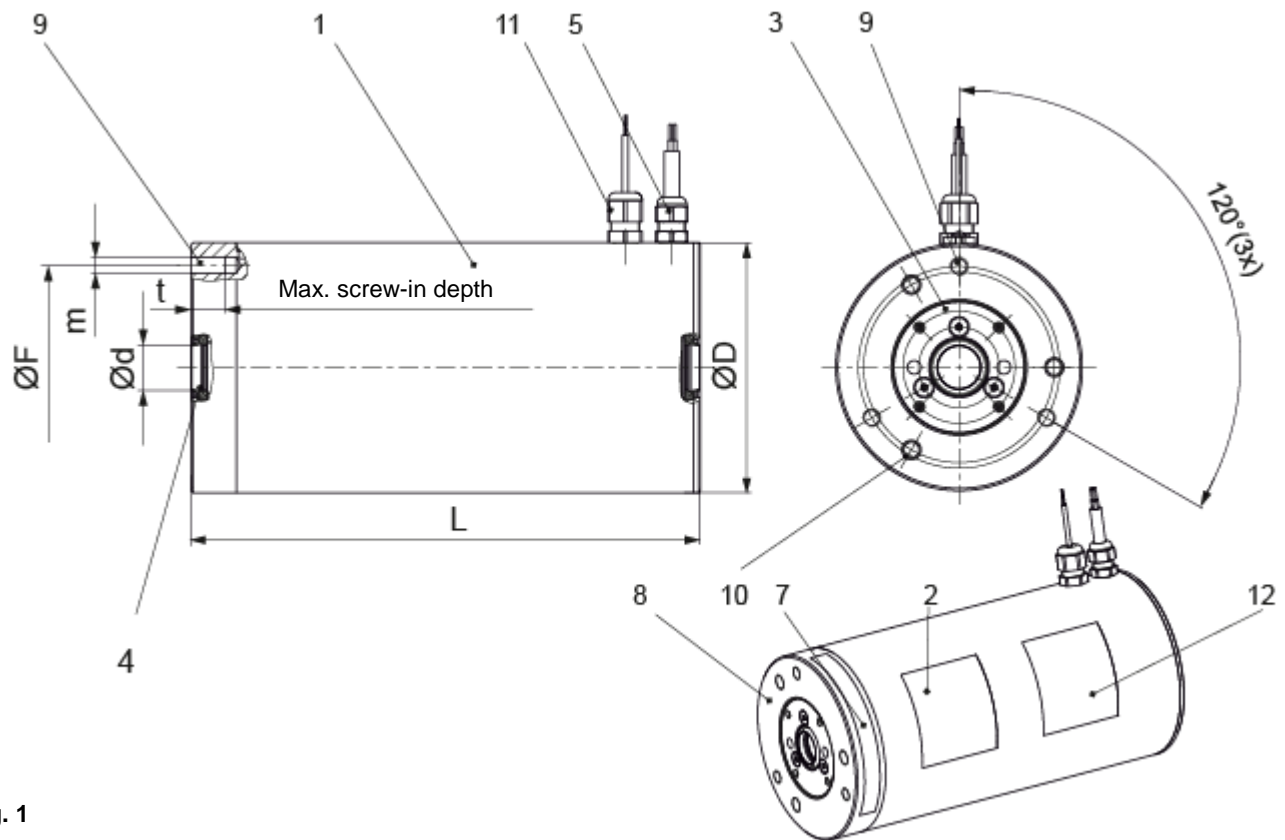

Fig. 1
- ☐ The brake clamping element is pulled against the spring through application of the voltage. The piston rod can be moved (Fig. 1).